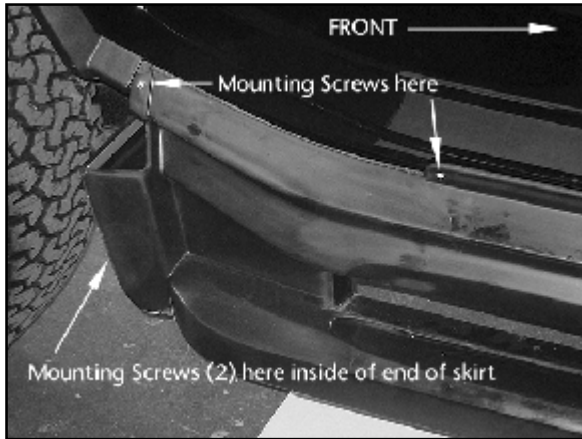

Fig 3
5. Install screws at front and rear of side skirt as shown in Fig 3 and Fig 4.